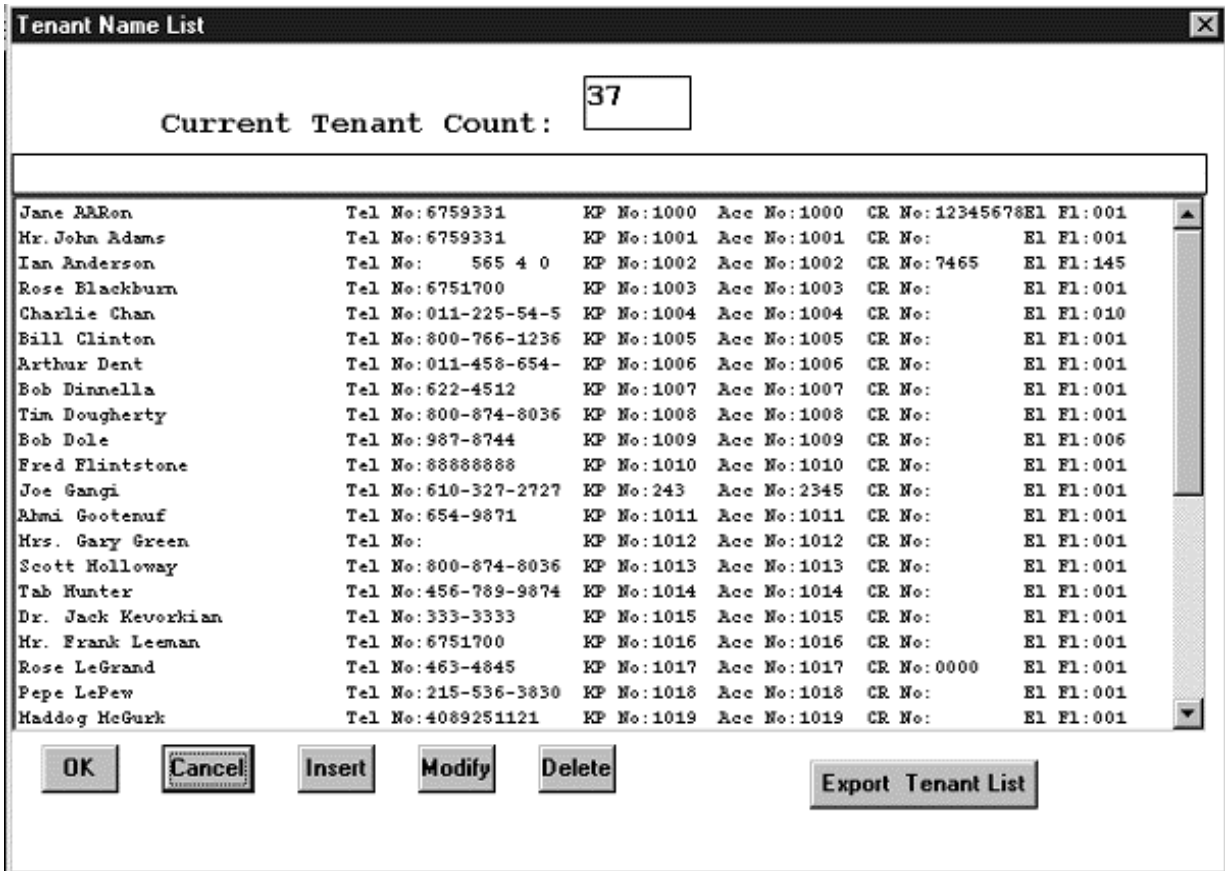

Figure 5.7.1a
f) The **Tenant Name List** window will then be displayed (Figure 5.7.1a). The list retrieved will contain any information entered at the local unit. Modifications can be made to the Tenant List as described in Section 5.6.1.